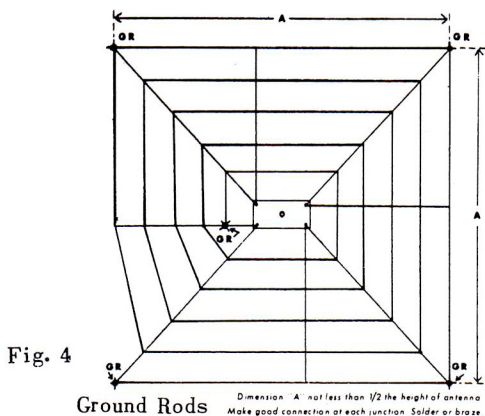

Fig. 4
If there is not sufficient space to install radials of the length recommended by the antenna manufacturer, the radials may be bent back slightly or cut somewhat shorter and more radials added. If space is limited to an area considerably less than that required for a normal system, the arrangement shown in Fig. 4 may be used. Dimension (A) must not be less than one-half the total antenna height.